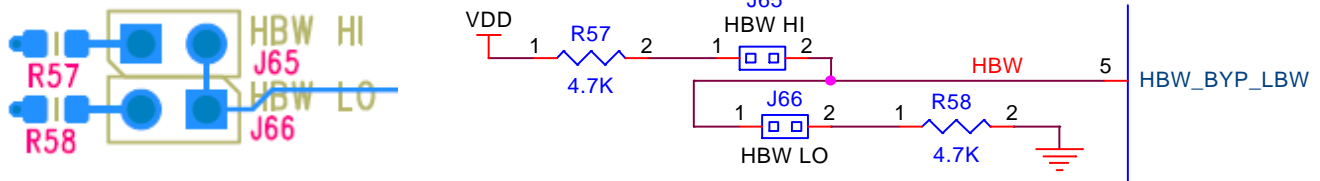

Figure 4. HBW\_BYPASS\_LBW# Schematic/PCB Configuration
5. The 100M\_133M# and HBW\_BYPASS\_LBW pins need to be hardware selected with jumpers. See Figures 4 and 7.
At J65 and J66 headers, there is a 4.7 k $\Omega$  pull-up to VDD and a 4.7 k $\Omega$  pull-down resistor to GND for manual control. See Figure 4.